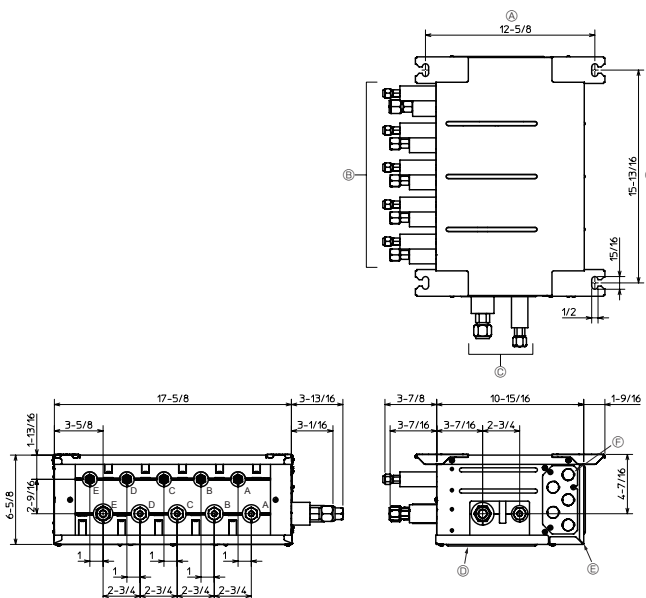

Fig. 4-2
■ PAC-MKA50BC (Fig.4-2)
- (1) Install the suspension bolts (procure locally) at the specified pitch (Fig. 4-2, 4-3).
- (2) Fit the washers and nuts (①, ②, procure locally) to the suspension bolts.